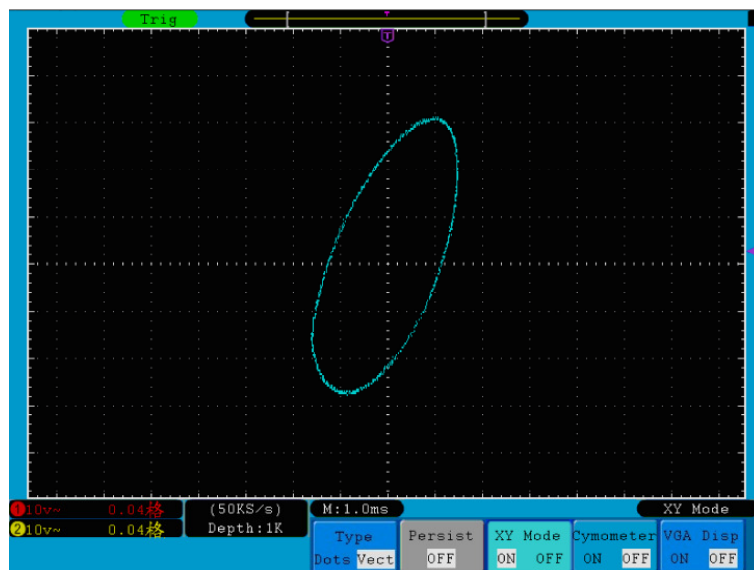

Fig. 45 XY Display Mode
2. Press the **H3** menu selection button to set XY Mode **ON**. The display format is changed to be XY mode (see **Fig. 45**).